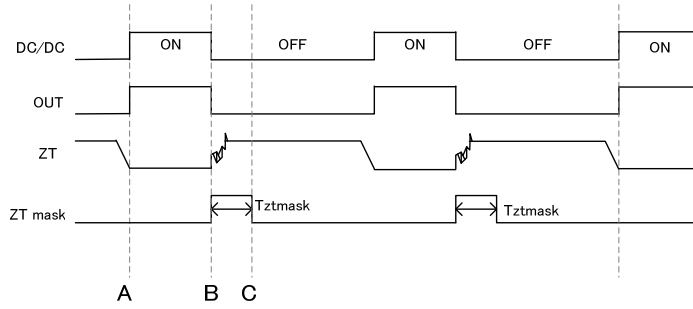

Figure 22 ZT Trigger Mask Function
**(4-6) ZT Trigger Mask Function (Figure 22)**